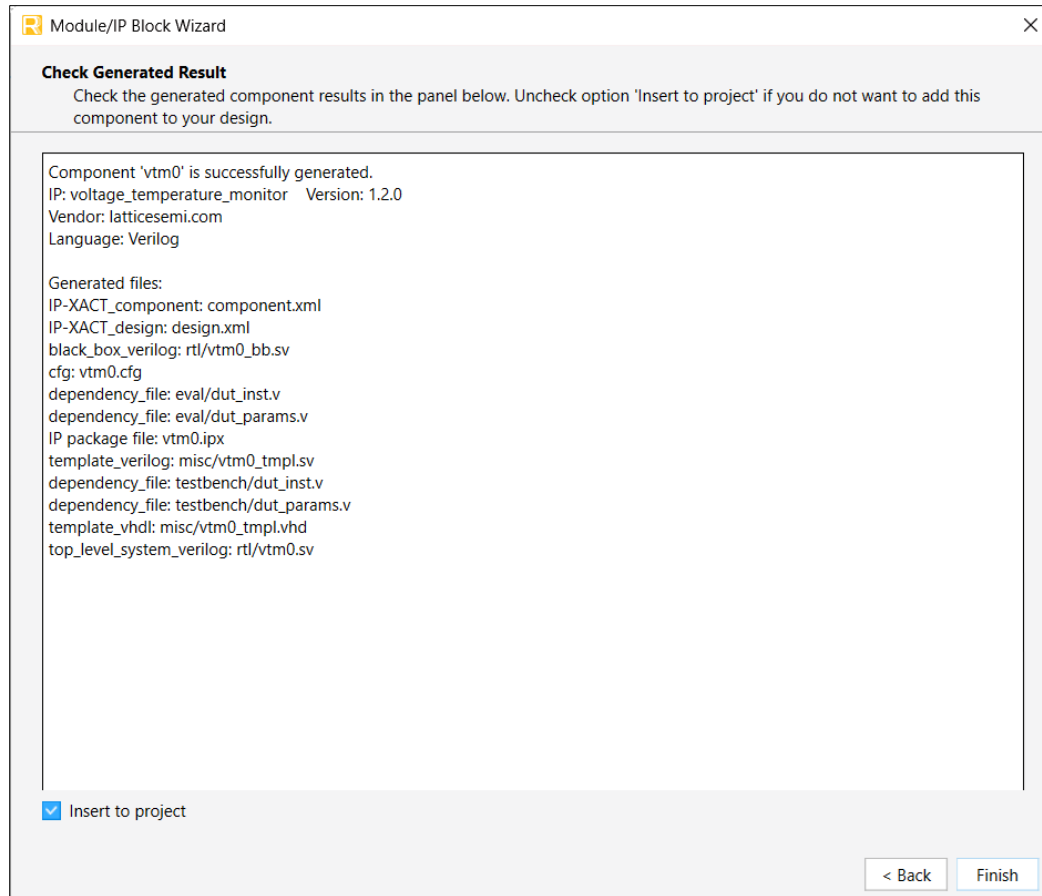

Figure 5.3. Check Generated Result
- Click **Generate**. The **Check Generated Result** dialog box opens, showing design block messages and results (Figure 5.3).